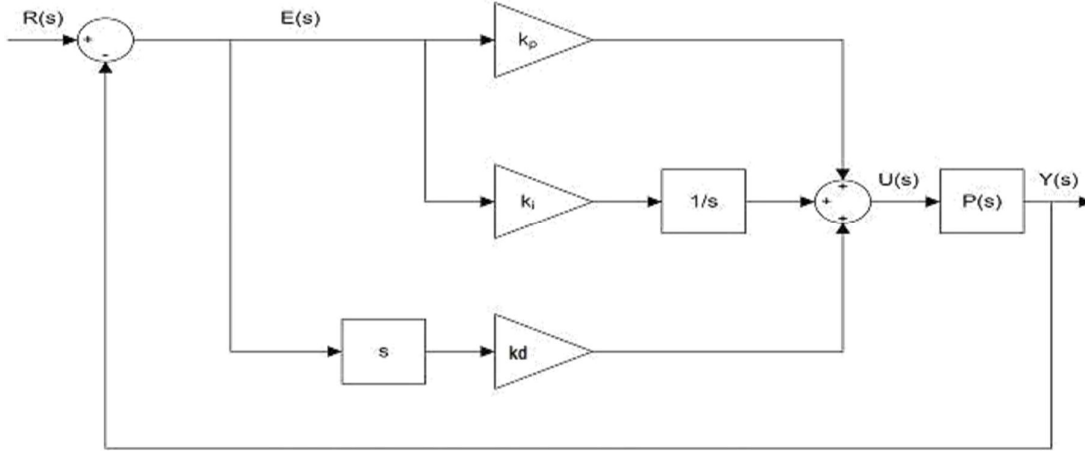

Figure 1: MATLAB Simulink model of PID controller.
The corresponding block diagram is given in figure 1. The control action is thus a sum of three terms referred to as proportional (P), integral (I) and derivative (D). To convert the integral and differential equation into algebraic equation controller equation 7 can also be described by the transfer function.